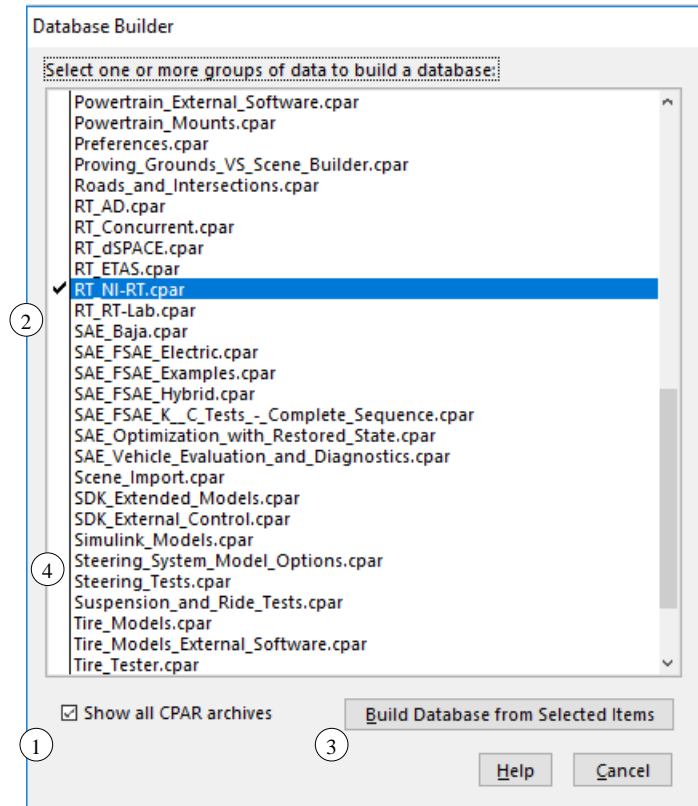

Figure 1.Database Builder
To build a new database, launch CarSim and select **Open Database Builder...** from the Select Recent Database window. In the Database Builder window (Figure 1), toggle on **Show all CPAR archives** ①. Select RT\_NI-RT.cpar ② along with any other data groups that you would like to include in the new database.
**Note** If you are planning to do the VeriStand ABS example tutorial which is included in the Run Simulations with NI VeriStand RT section of this document, you should also select the Simulink\_models.cpar from the Database Builder ④.